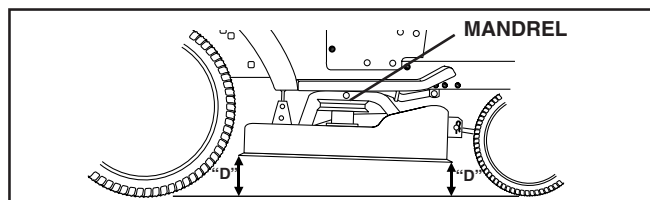

FIG. 20
**FRONT-TO-BACK ADJUSTMENT** (See Figs. 20 and 21)